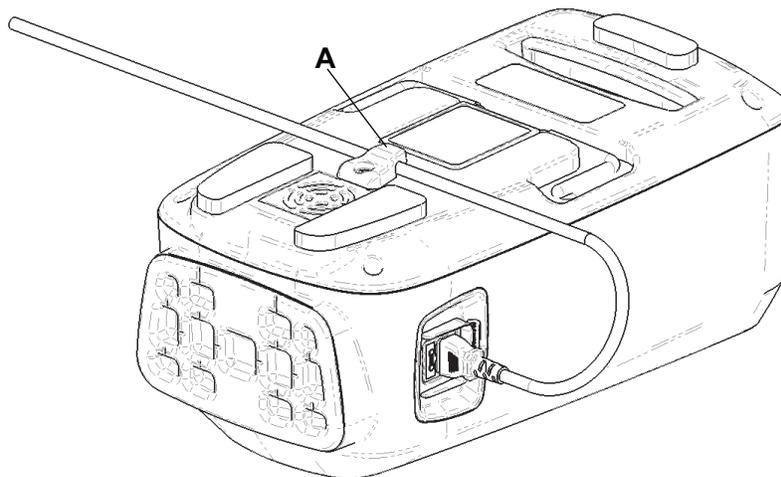

Figure 7 – Cord retention flex grip
3. Insert the power cord under the power cord retention flex grip (A) (Figure 7).